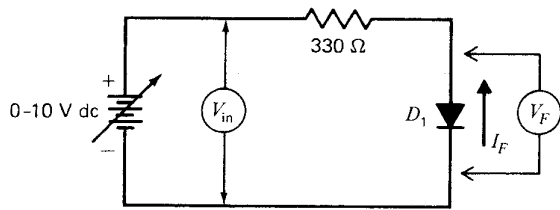

Fig. 51-3. Forward-bias condition.
5. Connect the forward-biasing circuit of Fig. 51-3.